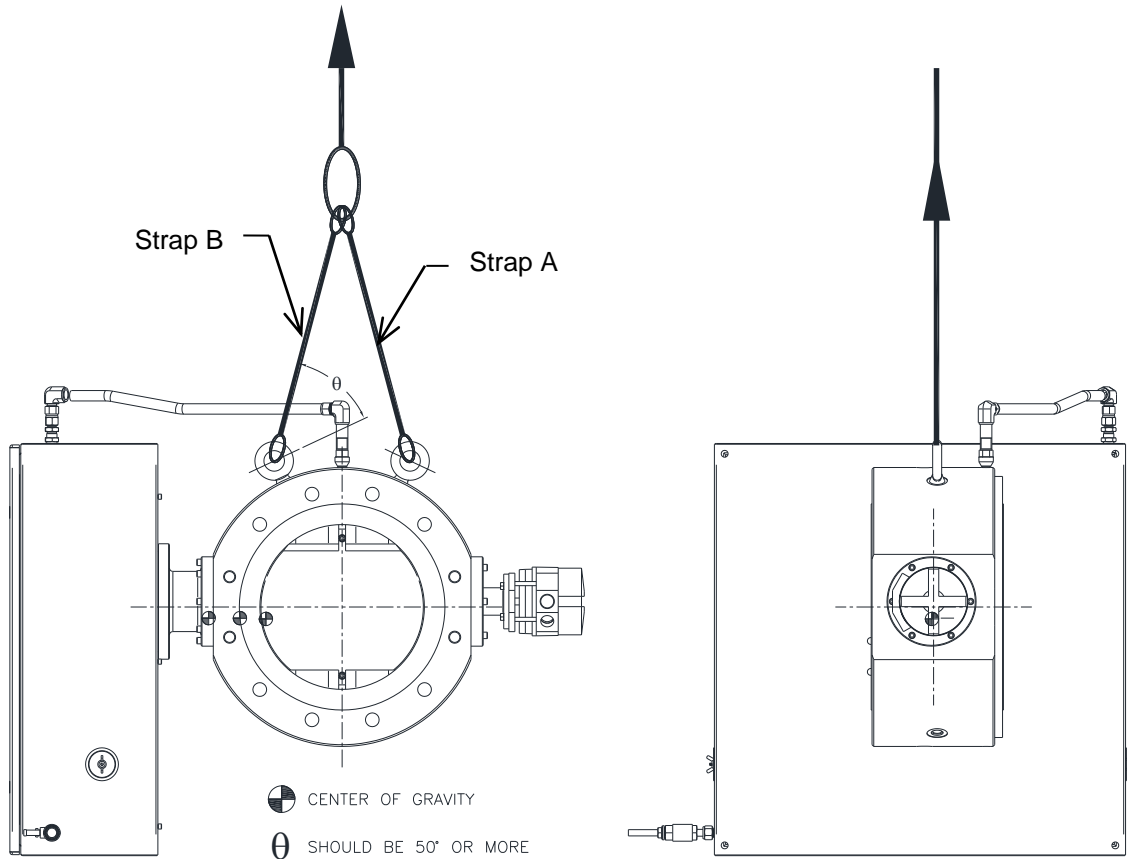

Figure 1: DO'S for BPIV (Typ)
6. While lifting the valve use a single lift point with 2 straps or 2 chains that are equal in length. See Fig 1 strap A is equal in length to strap B. The length of straps need to be long enough so θ is greater than 50° . COG details are given on the approval drawings.
9. Some of Dos and Don'ts for lifting the valve assembly are shown in figures 1 thru 4.